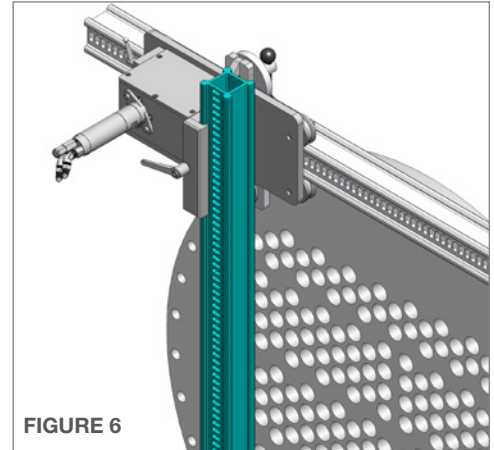

FIGURE 6
6. Loosen the **Large Adjustable Handle** for the Vertical Rail Clamp. Align the Idler Carriage with the vertical rail clamp on the horizontal carriage. Install the **Vertical Rail** with **(slots facing out)** down through the horizontal carriage clamp and between the rollers on the idler carriage. Adjust the position of the vertical rail as required and secure the clamp on the horizontal carriage by tightening the large adjustable handle. **(Figure 6)**